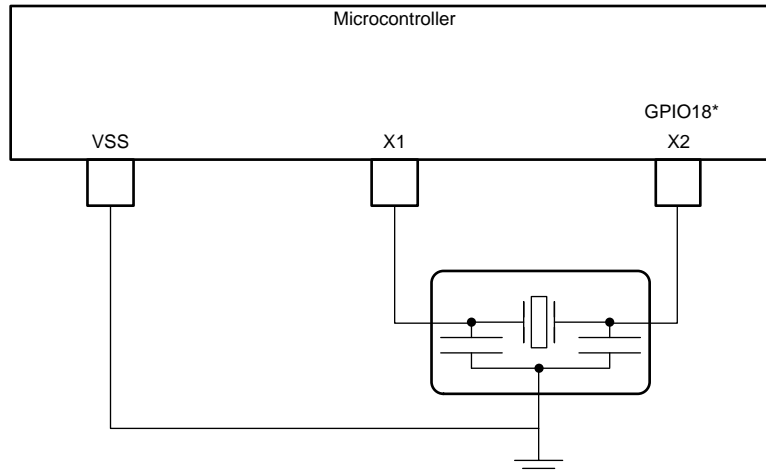

Figure 5-13. External Resonator
- An external resonator. The resonator should be connected across X1 and X2 with its ground connected to VSS as shown in Figure 5-13.